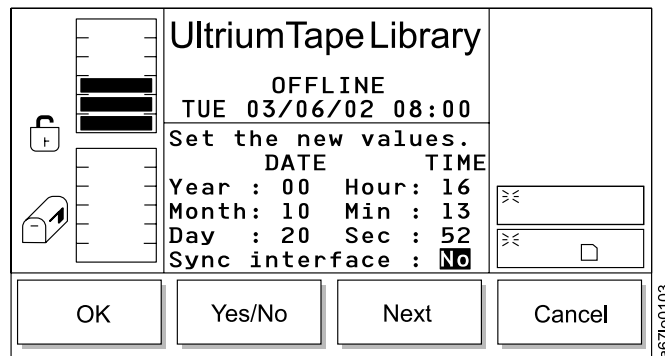

Figure 150. Sync Dialog
- If **Next** is selected, the next field in the list becomes the active field. If the next field is the last field, the Sync Dialog displays (see Figure 150).